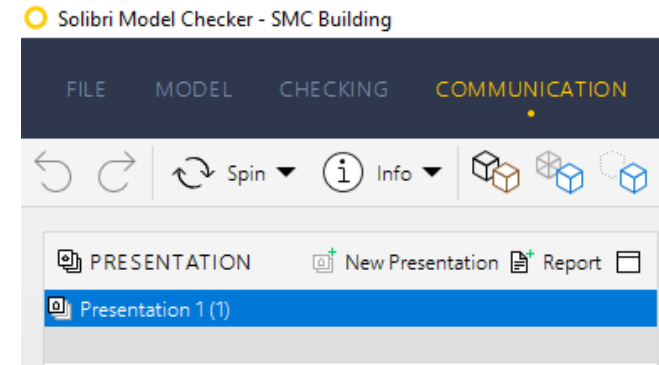

Figure 70: Presentation toolbar
- 5) You may also add issues separately by setting a view you want to store in the 3D View and then click "New Issue" on the **Presentation Toolbar**, or you can start a new Presentation. (see Figure 70).